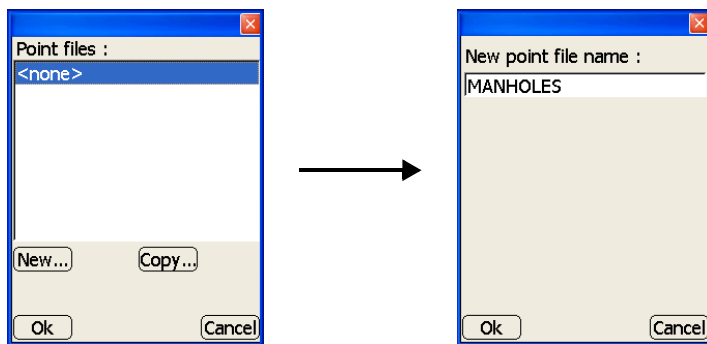

Figure 2-40. Create New Point File
1. Press **Data ▶ Point ▶ [<none> or file name]**. On the *Point files* dialog box, press **New** to create a point file, or press **Edit** to change a current point file (Figure 2-40).
2. On the *New point file* dialog box, tap the blank entry box to display the pop-up keyboard. Enter the name for the Point file; press **Ok** on the pop-up keyboard to continue. The Point file name displays (Figure 2-40).